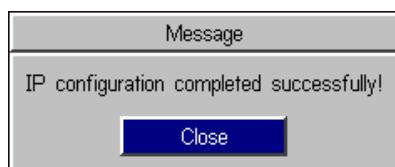

Figure C-5: IP Configuration Successful Message Box
12. Cycle power on the In-Sight 3400 sensor by removing, then applying, power to the sensor's 24VDC port. The message in Figure C-5 appears when the In-Sight 3400 sensor is located on the network.